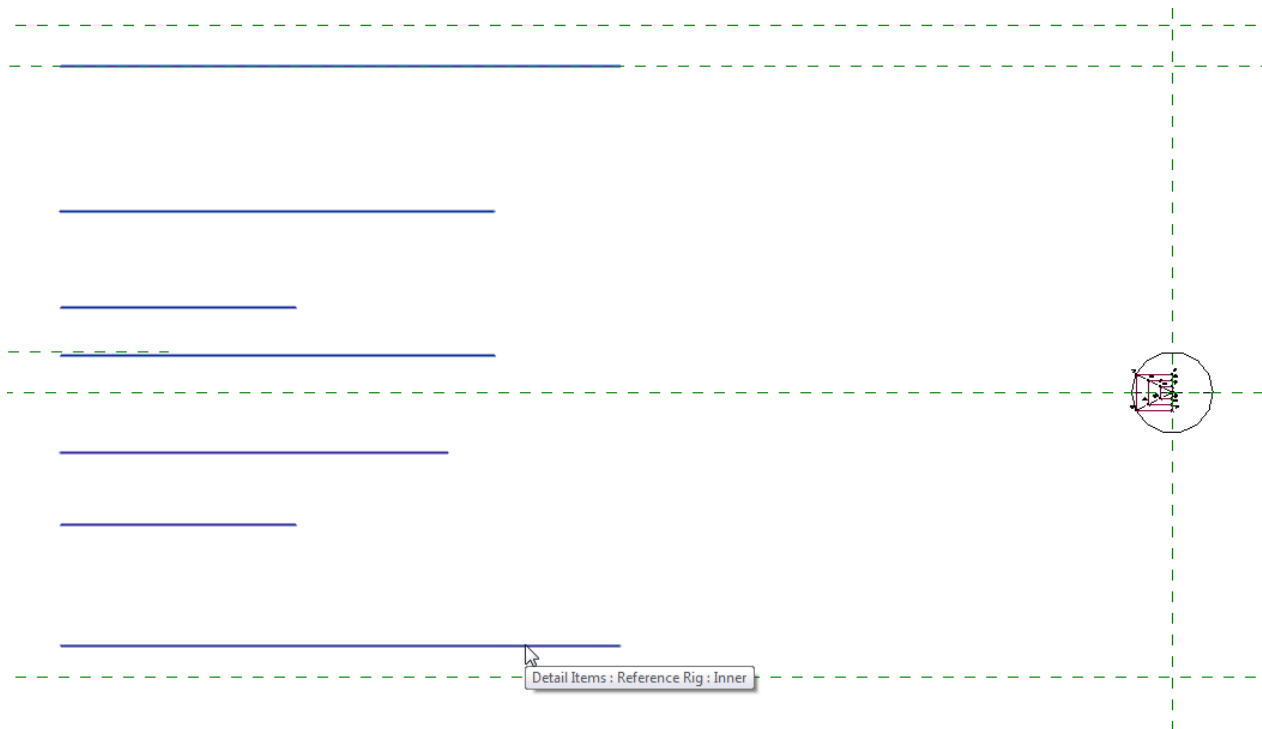

FIGURE 13—INSERT THE REFERENCE RIG TO CONTROL THE RADII OF THE INNER FILLET ARCS
- ⇒ Select the element onscreen, and then on the Properties palette, click the Edit Type button and link up the Base Diameter parameter (see Figure 13).